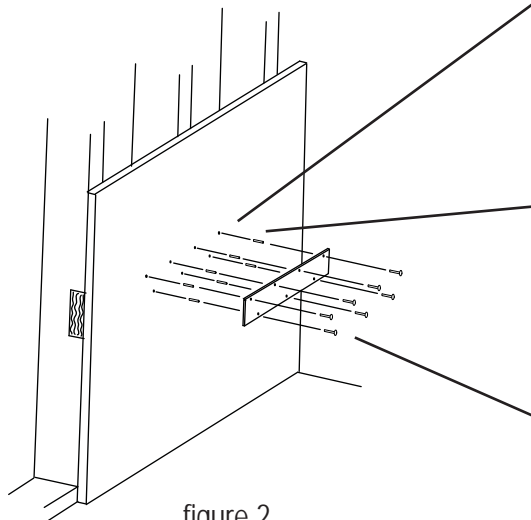

figure 2
- Use the mounting plate as a hole template. Position the metal mounting bracket to the finished wall surface (as shown in figure 2) keeping the flat of the mounting bracket towards the wall and the bottom of the mounting bracket leveled at the recommended height of 16" - 20" (63-51cm) above the floor. (Note: The top edge of the bracket has (4) four holes and this edge must be up). See figures 2 and 3.
- Make sure the mounting bracket is level, then mark the screw holes and remove the bracket. Drill (7) seven 5/16" (8mm) screw holes 2-5/16" (60mm) deep.